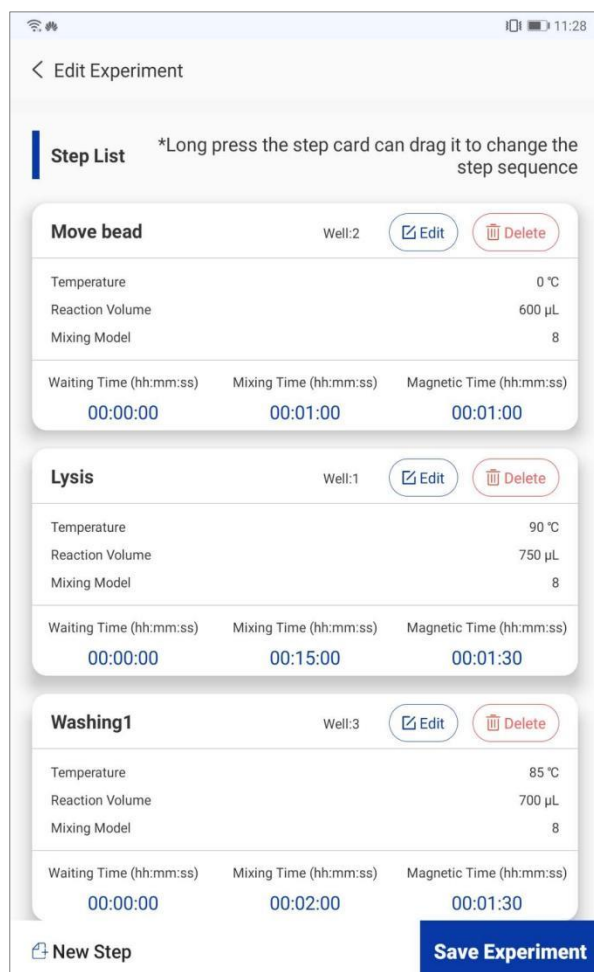

Figure 5-7. Experiment Interface - Edit Experiment Step and Parameter
- User can click < **Next Step** > to continue edit the experiment steps and parameters, as shown in figure 5-7.